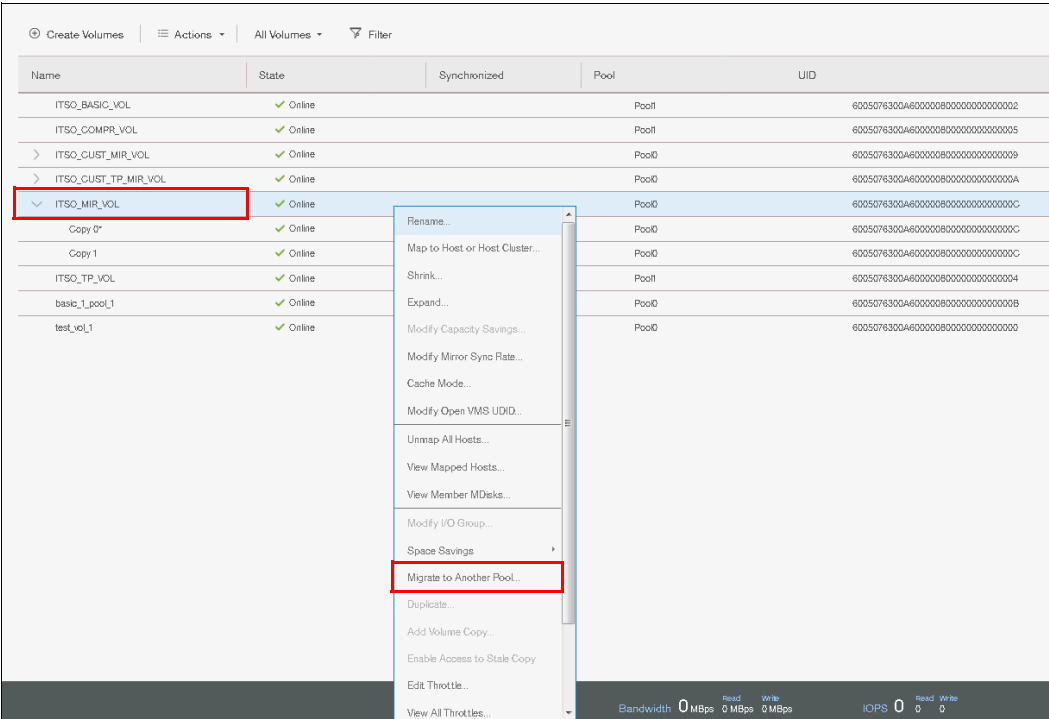

Figure 6-52 Selecting Migrate to Another Pool option
2. Right click on the desired volume and select **Migrate to Another Pool** as shown in Figure 6-52.